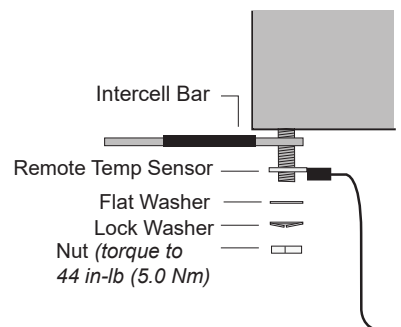

Fig. 2-3, Stack Up for Battery and Remote Temperature Sensor (as applicable)
4. Install Remote Temperature Sensors (RTS) as shown in Fig. 2-3.